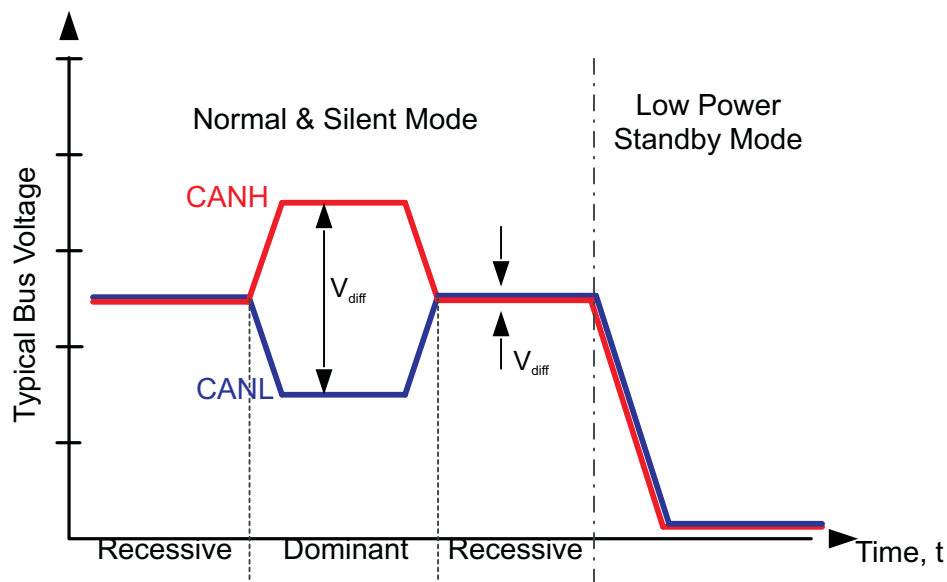
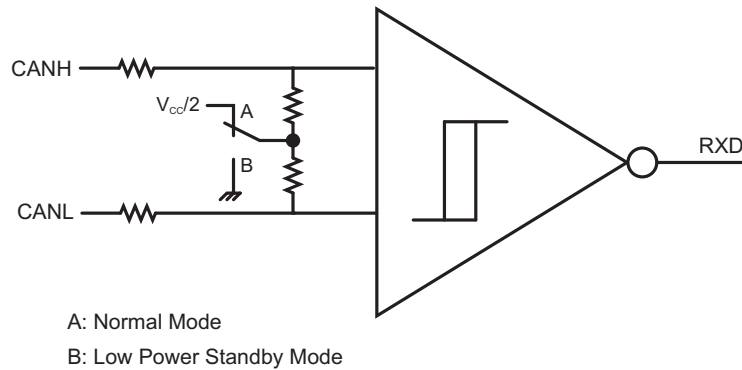

Figure 16. Bus States (Physical Bit Representation)
Figure 17. Simplified Common-Mode Bias and Receiver Implementation
Both of the supply pins have undervoltage detection, which places the device in forced standby mode to protect the bus during an undervoltage event on either the V_{CC} or V_{IO} supply pins. If V_{IO} is undervoltage, the RXD pin is forced to the high-impedance state and the device does not pass any wake-up signals from the bus to the RXD pin. Because the device is placed into forced standby mode, the CAN bus pins have a common-mode bias to ground, protecting the CAN network; see Figure 16 and Figure 17.
(1) See Figure 16 and Figure 17 for common-mode bias information.
This is the low-power mode of the device. Standby mode is selected by setting STB high. The CAN driver and main receiver are turned off and bidirectional CAN communication is not possible. The low-power receiver and bus monitor, both supplied through the V_{IO} supply, are enabled to allow for RXD wake-up requests through the CAN bus. The V_{CC} (5-V) supply may be turned off for additional power savings at the system level. A wake-up request is output to RXD (driven low) for any dominant bus transmissions longer than the filter time t_{BUS} . The local protocol controller (MCU) must monitor RXD for transitions and then reactivate the device to normal mode based on the wake-up request. The 5-V (V_{CC}) supply must be reactivated by the local protocol controller to resume normal mode if it has been turned off for low-power standby operation. The CAN bus pins are weakly pulled to GND, see Figure 16 and Figure 17.
(1) H = high level, L = low level, X = irrelevant, Y = common-mode bias to GND, Z = common-mode bias to $V_{CC} / 2$. See Figure 16 and Figure 17 for common-mode bias information.
(2) HVDA551 and HVDA553 have internal pullup to V_{IO} on the STB pin. If the STB pin is open, the pin is pulled high and the device is in standby mode.